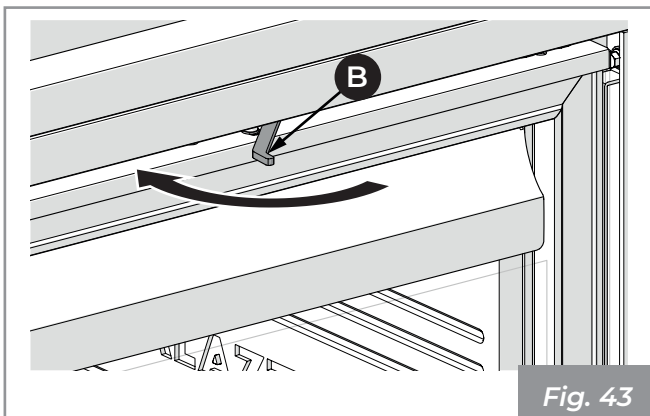

Fig. 43
- 5) Push lever (B) and return it to the locked position (Fig. 43).